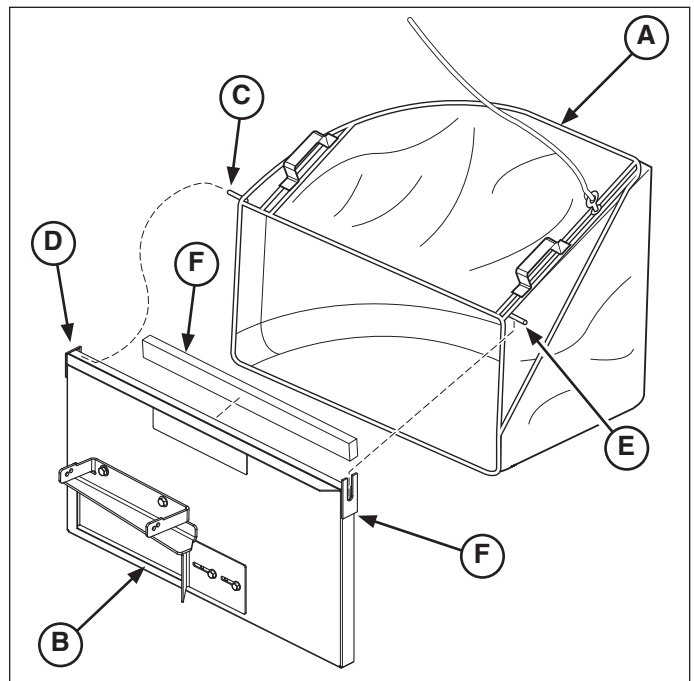

Figure 9. Install the Collector Bag
1. Attach the foam strip (F, **Figure 9**) to the bagger mount weldment (B). The foam strip should be flush with the top edge of the bagger mount weldment.
2. Install the collector bag (A) onto the bagger mount by sliding the front collector bag pivoting pin (C) into the bagger mount support hole (D) located on the front of the bagger mount.
3. Place the rear collector pivoting pin (E) into the bagger mount support slot (F) located on the back of the bagger mount as shown in Figure 9.
3. Remove the collector bag (**A, Figure 9**) from the bagger mount (**B**).